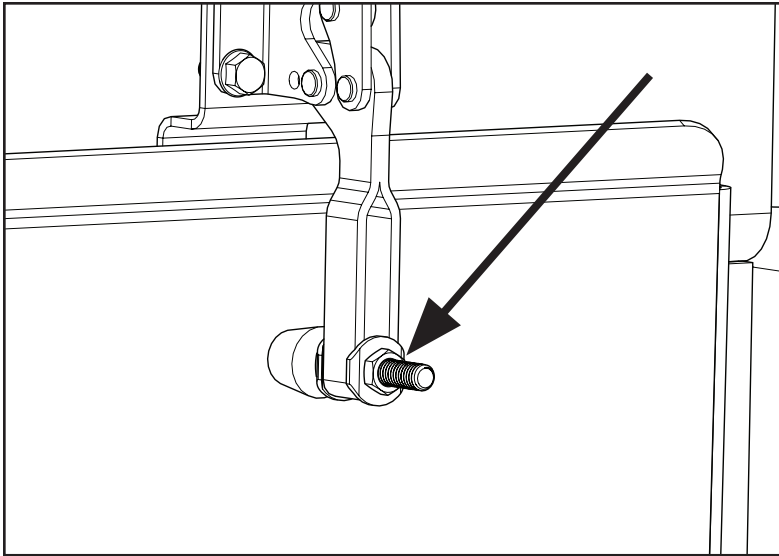

Figure 8
22. Adjust the cleanout door latch and clamping force using two 1/2" wrenches (Figure 8). The more clamping force, the tighter the door seals with these new bushings. The clamp should have a tight fit against the door.